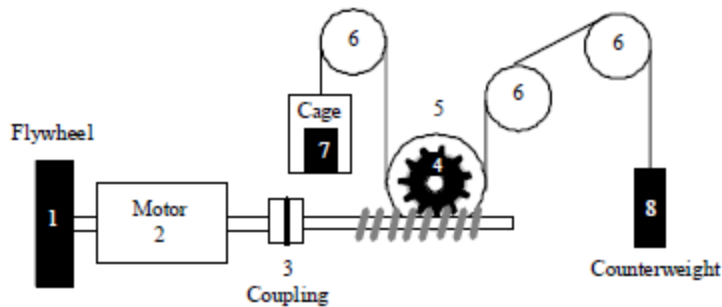

Figure 3
3. Consider the lift drive indicated in figure 3. The motor operating speed is 1465 rev/min. The linear speed of the cage and the counterweight is $v = 1$ m/sec.